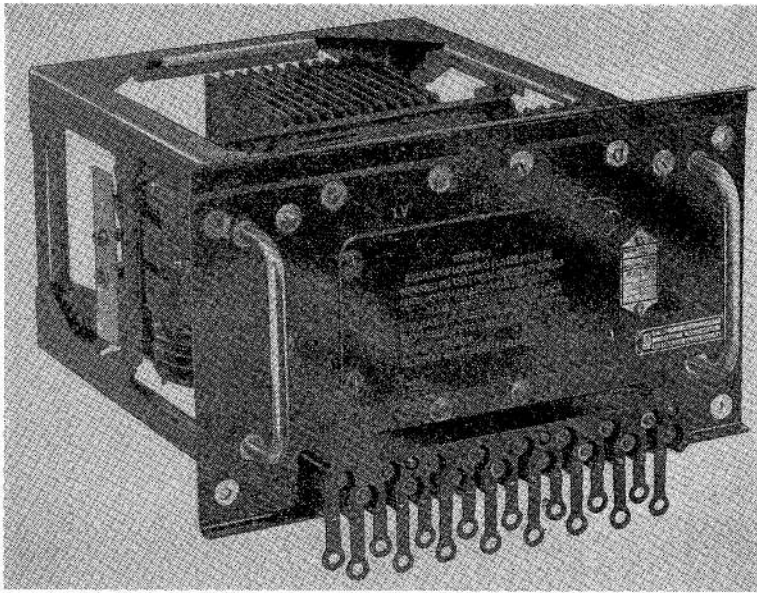

Fig. 1. General view of Type ZA6402/1 regulator unit
3. The ZA 6402/1 regulator unit (fig. 1) comprises three regulators, three resistors, one terminal block incorporating 16 associated connectors and the terminal block cover; in addition two regulator locking plates are included for transport purposes.